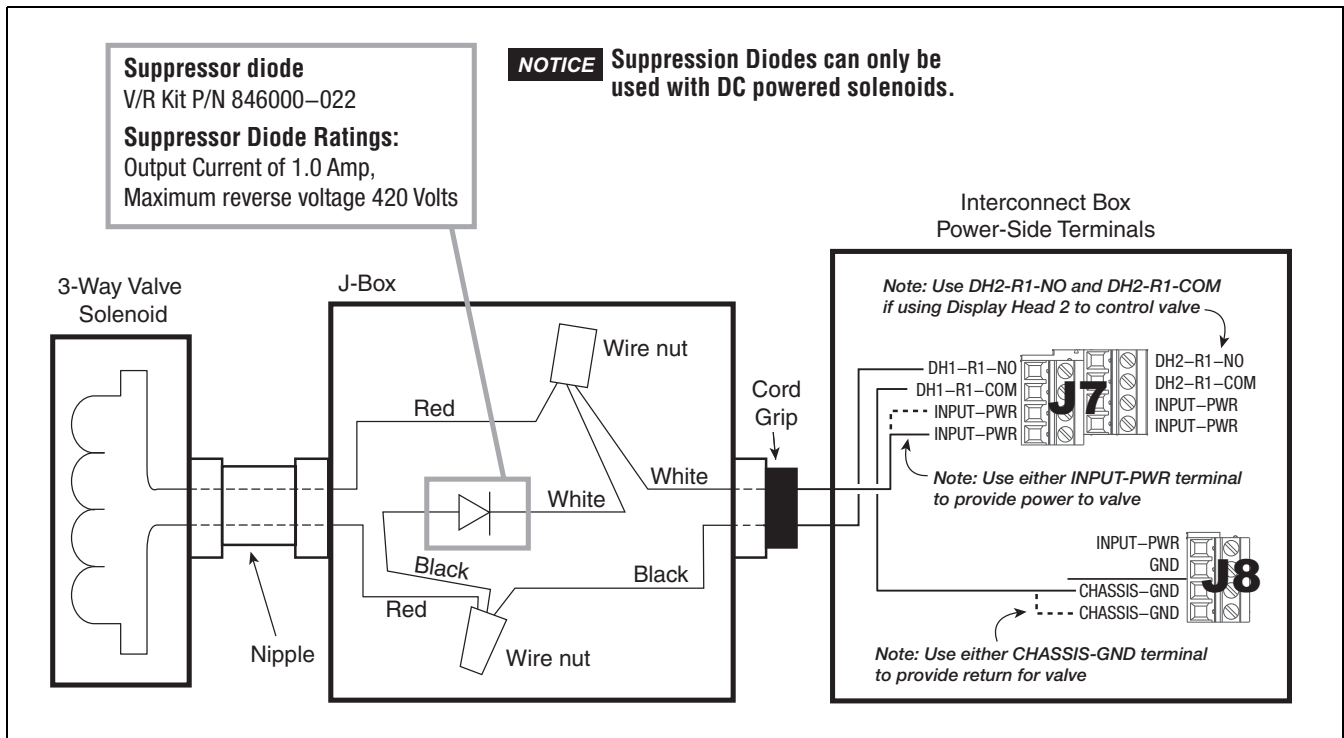

Figure 7. Connecting 3-Way Valve To The Interconnect Box
6. At the IB Box, connect the 3-way valve solenoid and a jumper to J7 and J8 as shown in Figure 7.